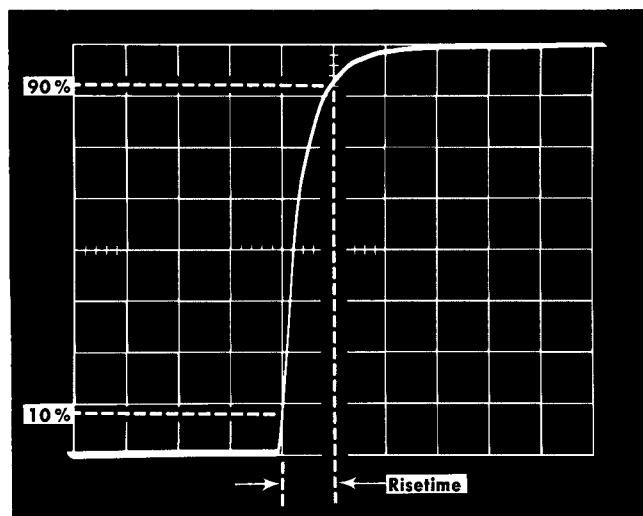

Fig. 6-23. Typical display of risetime for step 17g.
- g. Measure the risetime from the 10% to 90% amplitude points. See Fig. 6-23. Maximum risetime, 1.2 μ s. (Indicated time/div is divided by 5 when the 5 \times Mag knob is pulled out.)